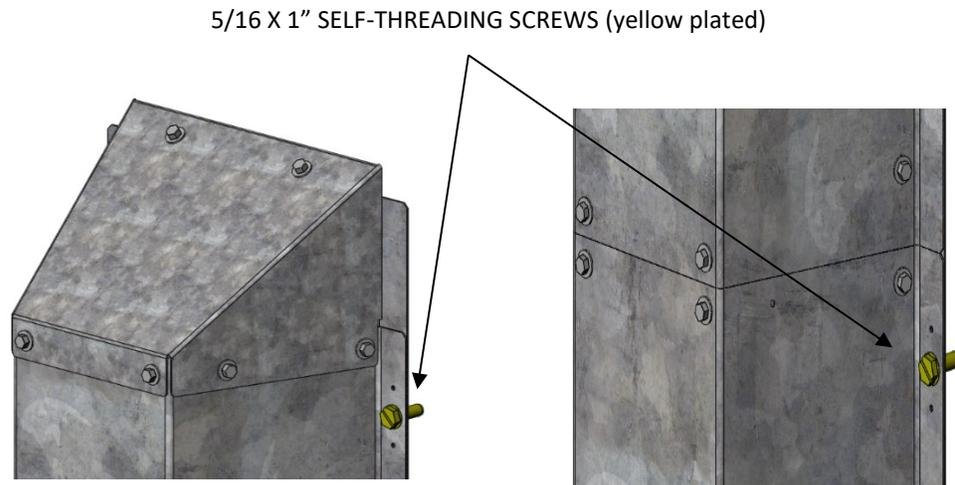

Figure 3.3.3a: Top of Column Assembly & Mid-joint of Column Assembly
5. See Figure 3.3.3a below. Second person will pick the column side hole that aligns with the bin wall corrugation and drill through the bin wall with the electric drill and  $\frac{9}{32}$ " bit.